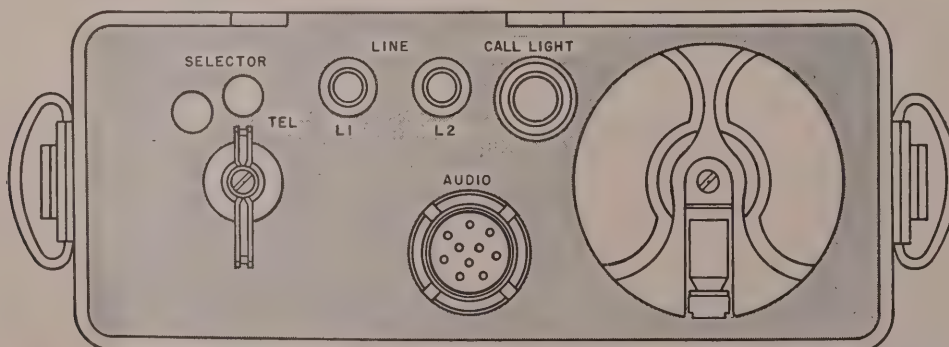

Figure 36. Remote Control C-433/GRC, panel view.
b. REMOTE CONTROL C-433/GRC. Figure 36 illustrates the controls and instruments on Remote Control C-433/GRC. The following chart lists the functions of the controls and instruments.